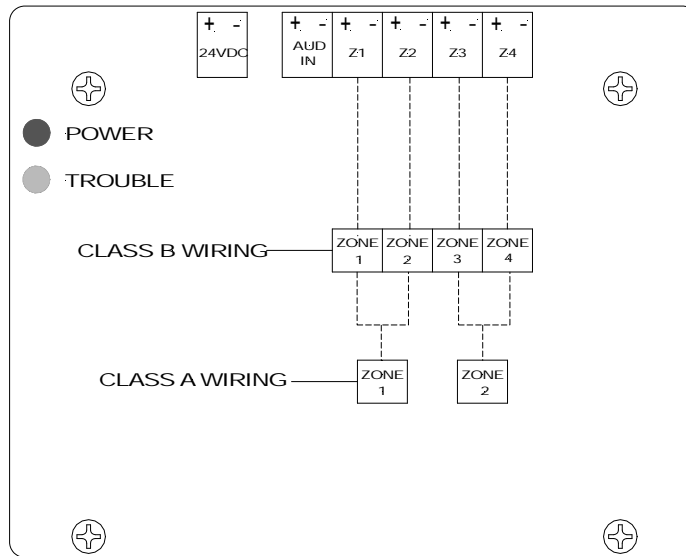

Figure 8:
2. See Figure 8 or the Splitter cover silkscreen for terminal block wiring designs.